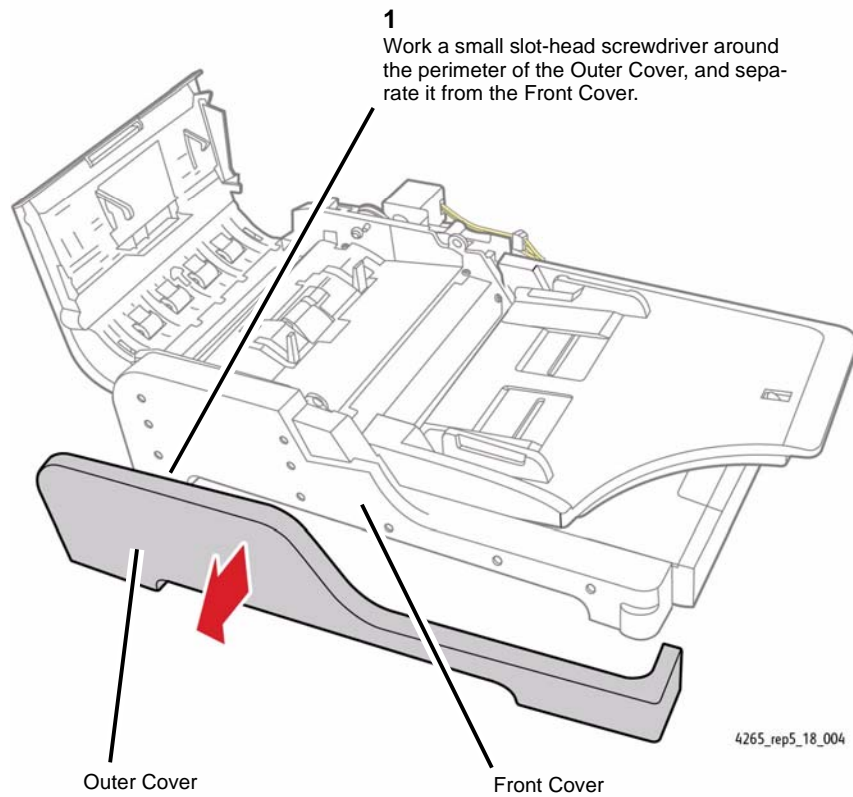

Figure 4 Removing the Outer Cover from the Front Cover
6. Remove the Outer Cover from the Front Cover of the DADF (Figure 4).